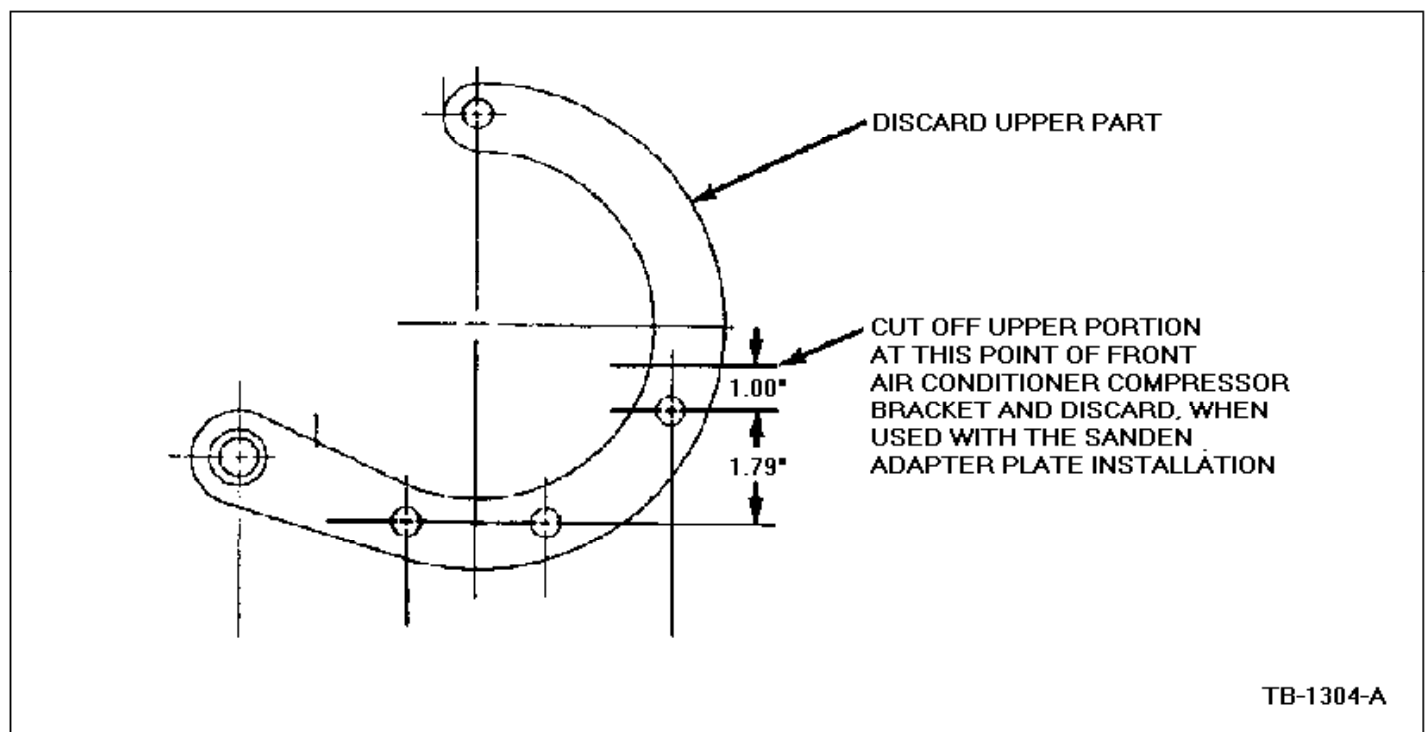

Figure 1 - Article 89-22-10
Trim the front compressor mounting bracket approximately one (1) inch above the belt tensioner mounting hole as shown in Figure 1. Throw away the top portion of the bracket before installing the Sanden compressor.